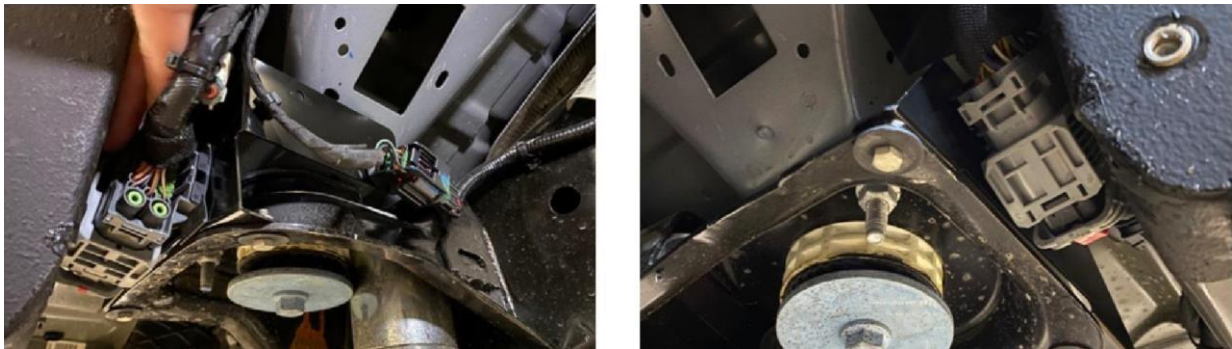

Figure 4
3. Reposition and secure the factory wire harness connectors onto the AEV brackets (fig. 4).